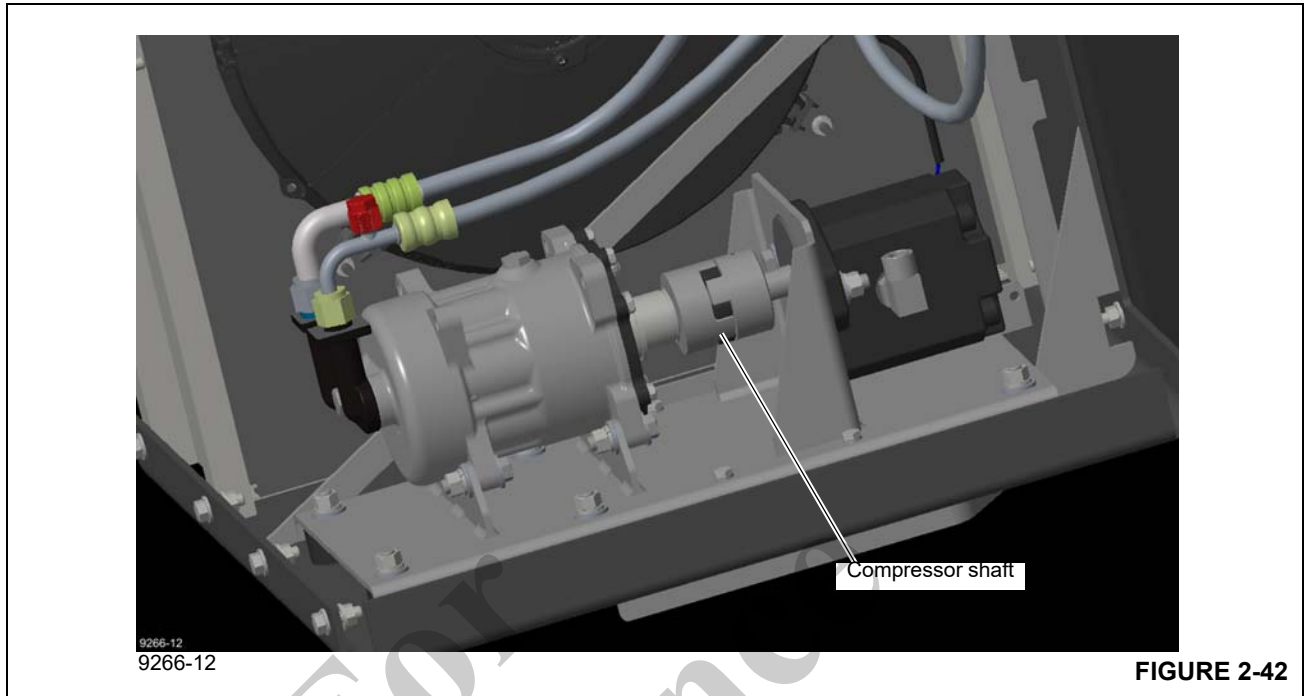

FIGURE 2-42
2. Start engine and idle. Turn on the A/C, listen to ensure that the compressor motor is running or verify by removing the cover (see Figure 2-42) and looking at the shaft. The reading at G2 should be 1000 ±150 PSI (69 ±10 bar) if it is not use the service tool as follows to adjust.